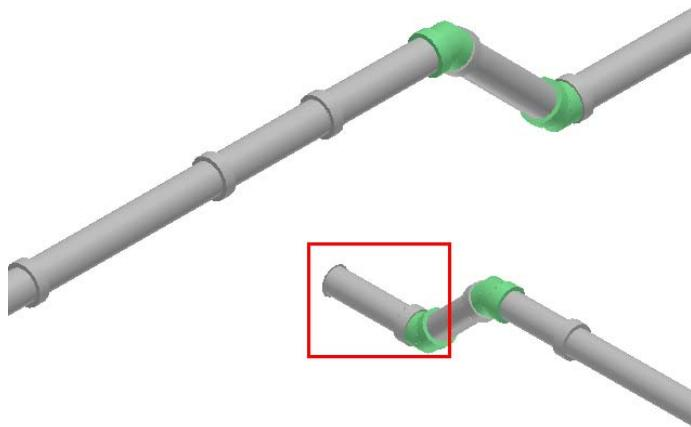

Figure 28: 3 Ft Pipe Routed
51. Click in the graphic view to accept the placement of this small sloped pipe, as shown in Figure 28. Right-click to terminate the **Route Pipe** command.